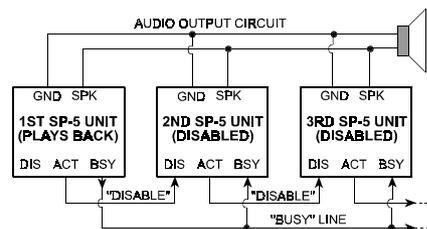

Figure 3. Multi-Unit Configuration
important role in multi-unit configurations (Fig. 3). The control terminals are:
**BSY** - BUSY Input/Output terminal. While an SP-5 is engaged in playback, its BSY terminal is pulled to ground by internal circuitry, to indicate that a message is being played back into the speaker. The other SP-5 units sense this indication via their own BSY terminals (Fig. 3).
In the example of Figure 3, the first SP-5 unit has higher priority than other units, because it can not be disabled (its DIS input is not connected). When it starts playing back, its ACT output goes LOW and disables the second
- B. Interconnect all BSY terminals, all GND terminals and all SPK terminals (Fig. 3).
- C. Select the SP-5 units to which you wish to assign priority. Leave the DIS terminal of this unit disconnected (Fig. 3).